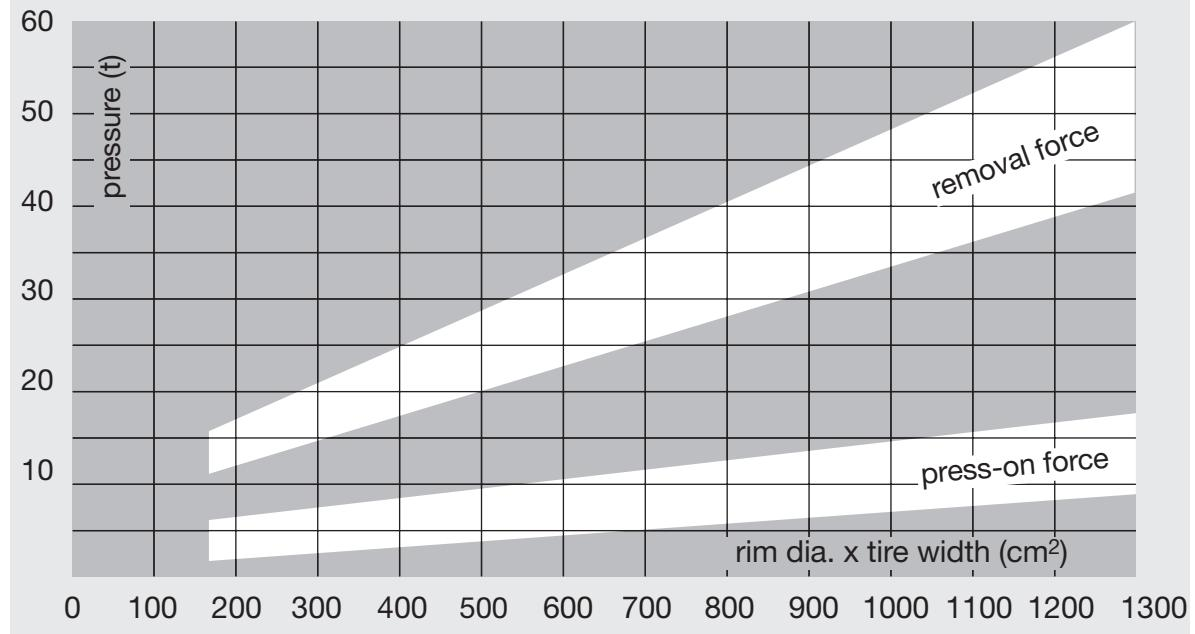

Fig. 1 Expansion ring (C)
- Expansion ring (fig. 1), to suit the rim diameter (max. outer dia. = rim dia. + 1 mm). The ring also serves as a support when pressing off the tires. Tires of up to 100 mm in width can be pressed on without using an expansion ring if the rim has a chamfer of less than 30° over at least 3 mm width on the side where the tire is to be pressed on.